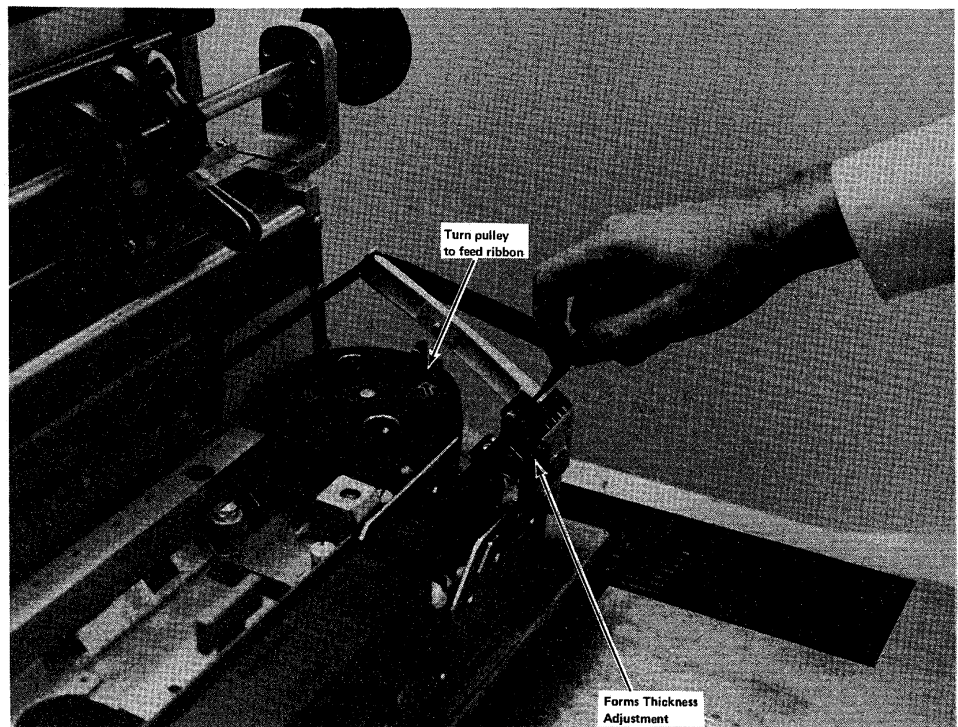

Figure 11-9. Installing the Ribbon
- 2 Set the forms thickness control (Figure 11-9) to the number of parts in the form being used.
- 8 Take up any extra ribbon slack by turning the print belt pulley shown in Figure 11-9.